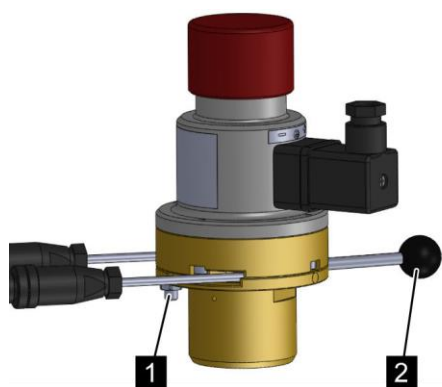

Fig. 25: Resetting the isolation
2. ➤ Undo the hexagon nut (Fig. 25/1) on the electric release device using a wrench.
3. ➤ Turn the manual lever (Fig. 25/2) on the electric release device to the "Operation" position.